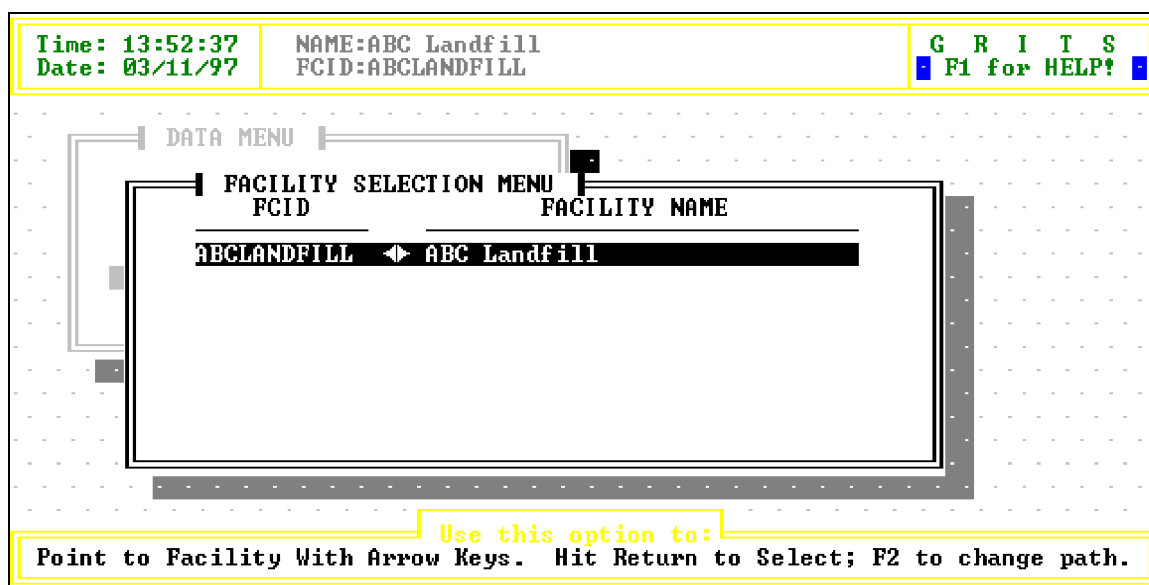

Figure 3-6. The FACILITY SELECTION MENU. In this case there is data for only one facility in the currently selected data directory.
1. Use the up and down arrow keys to highlight the Select a Facility option of the DATA MENU and press <Enter>. A pop-up list of all facilities in the currently selected data directory appears on your screen as shown in Figure 3-6.